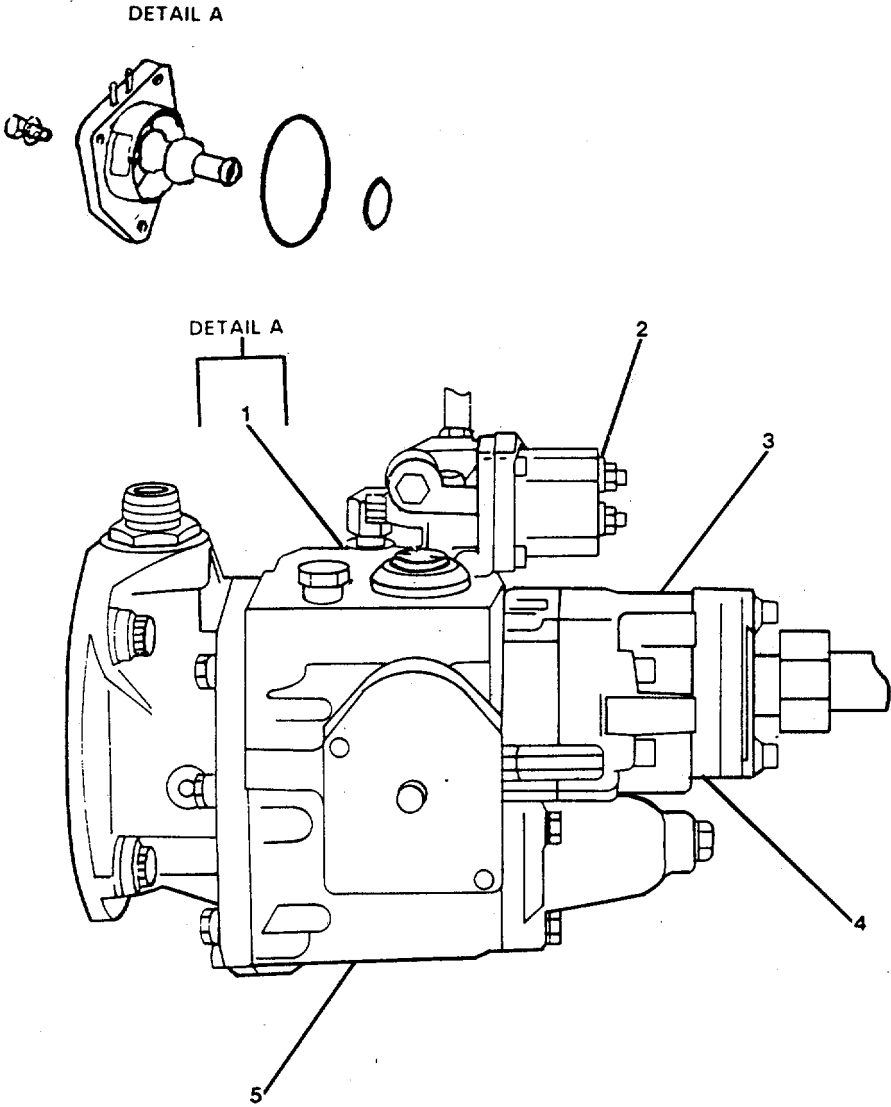
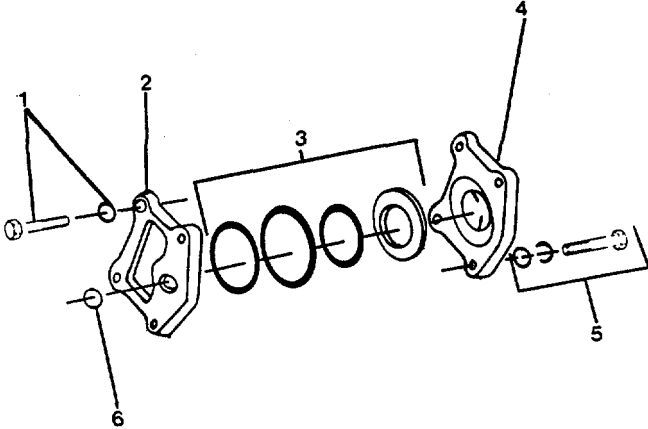
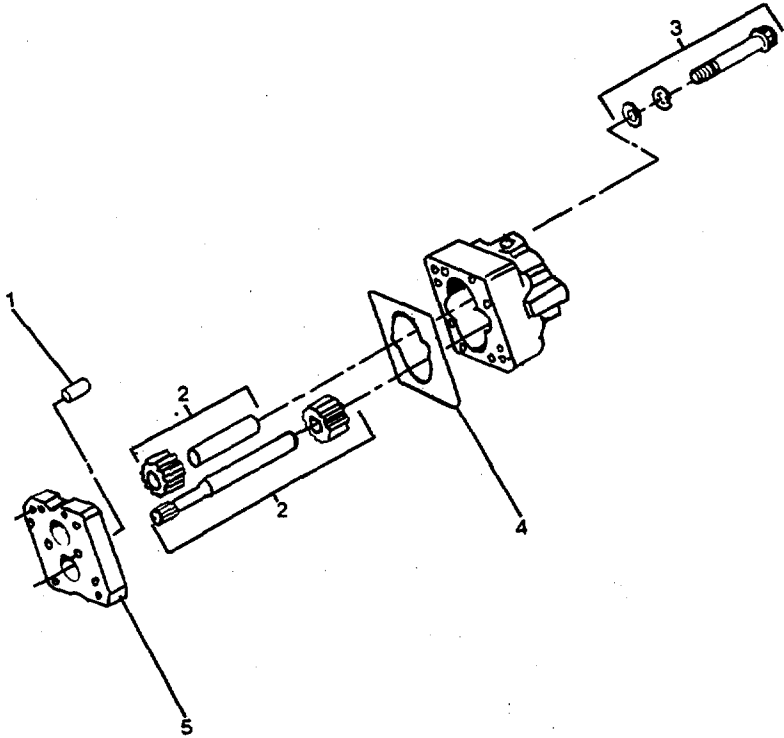
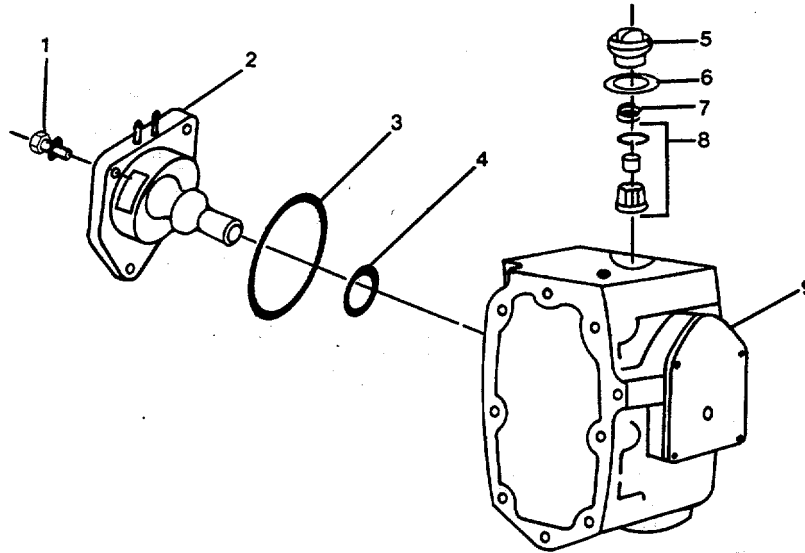

FIGURE 3-16. *Fuel Pump.*
FIGURE 3-18. Fuel Pump Fluid Pressure Dampener.
FIGURE 3-19. Fuel Pump Gear Assembly.
FIGURE 3-20. Fuel Pump Electric Governor Actuator and Fluid Filter Element Assembly.
- a. Remove the fuel shutoff valve (2, Figure 3-16).
b. Remove the fluid pressure dampener (4, Figure 3-16).
- (1) Remove two capscrews, lockwashers (1, Figure 3-18) and two capscrews and lockwashers and flat washers (5).
- (2) Remove the cover access (4), preformed packing, solid plain disk, and spacer ring (3), and the fuel pump dampener housing (2).
- (3) Remove packing (6) from the back of housing (2).
c. Remove the fuel pump gear assembly (3, Figure 3-16).
- (1) Remove the two machine bolts, lockwashers and flat washers (3, Figure 3-19).
- (2) Remove the pump gear assembly.
- d. Remove the electric governor actuator (1, Figure 3-16).
- (1) Remove the three capscrews (1, Figure 3-20).
- (2) Pull the actuator (2) from the fuel pump (9) body while twisting slowly in a clockwise direction.
- (3) Remove the preformed packing (3, 4).
- (4) Remove the machine thread plug (5) and remove the seal (6), helical compression spring (7), and fluid filter element (8) from the top of the fuel pump body (9).
- b. Inspect the fluid pressure dampener (Figure 3-18).
- (1) Visually check the body and plate for signs of damage.
- (2) Replace the fluid pressure dampener if damaged.
- c. Inspect the fuel pump gear (Figure 3-19).
- (1) Visually inspect the shafts and spur gears (2). Replace the pump gear assembly if excessive wear, or burrs, cracks, or broken gear teeth are found.
- (2) Check the installed depth of the regulating fluid pressure valve (1) in the cover (5) face. The valve must be even to 0.015 inch (0.38 mm) below the cover face. Seat the pressure valve as required.
- d. Inspect the fluid filter element assembly (8, Figure 3-20).
- (1) Clean the metal parts of the fluid filter element (8) in solvent.
- (2) After cleaning, visually inspect for metal particles in the mesh. Replace screen as necessary.
- (3) Clean the machine thread plug(s) (5) and helical compression spring (7) in fuel oil and inspect for signs of damage. Replace parts as necessary.
- e. Check the governor actuator (2, Figure 3-20):
- (1) Visually check for signs of damage and replace actuator as necessary.
- (2) Discard old preformed packing (3, 4).
- a. Install the fluid filter element assembly (8, Figure 3-20) into the top of the pump body. The hole in the screen goes down.
- (1) Install the threaded plug (5) and tighten to 10 ft-lb (13.5 N.m) torque.
- b. Install the fuel pump gear assembly (Figure 3-19) and pressure dampener (Figure 3-18).
- (1) Use a new gasket (4, Figure 3-19) and install the pump gear assembly to the pump body (5, Figure 3-16).